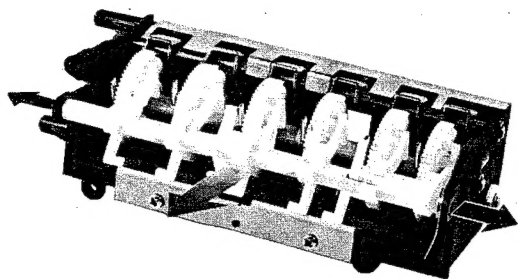

Fig. 14
- 4) After gear replacement, return each gear to its proper position. (See figure 14)